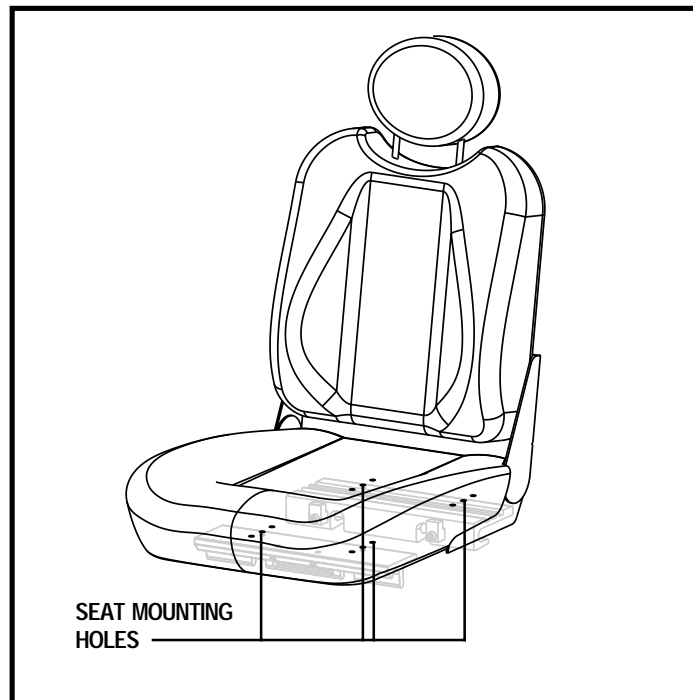

Figure 16. Seat Position Adjustment
7. Reposition the extrusions on a different set of mounting holes. You must move both extrusions the same number of holes either forward or backwards. See figure 16.